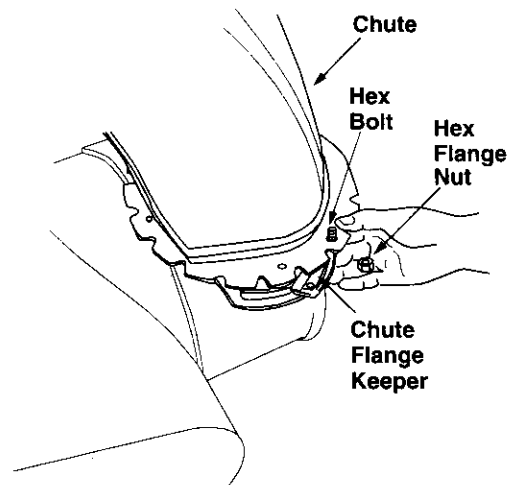

Figure 4
- Place the chute flange keeper (flat side down) beneath lip of chute assembly as shown in Figure 4. You will find the chute flange keepers in group E of the hardware pack.
- Insert 1/4-20 hex bolt and flange nut (group E of the hardware pack) up through chute flange keeper and chute assembly as shown in Figure 4. Do not tighten at this time. Rotate chute to install all the flange keepers.